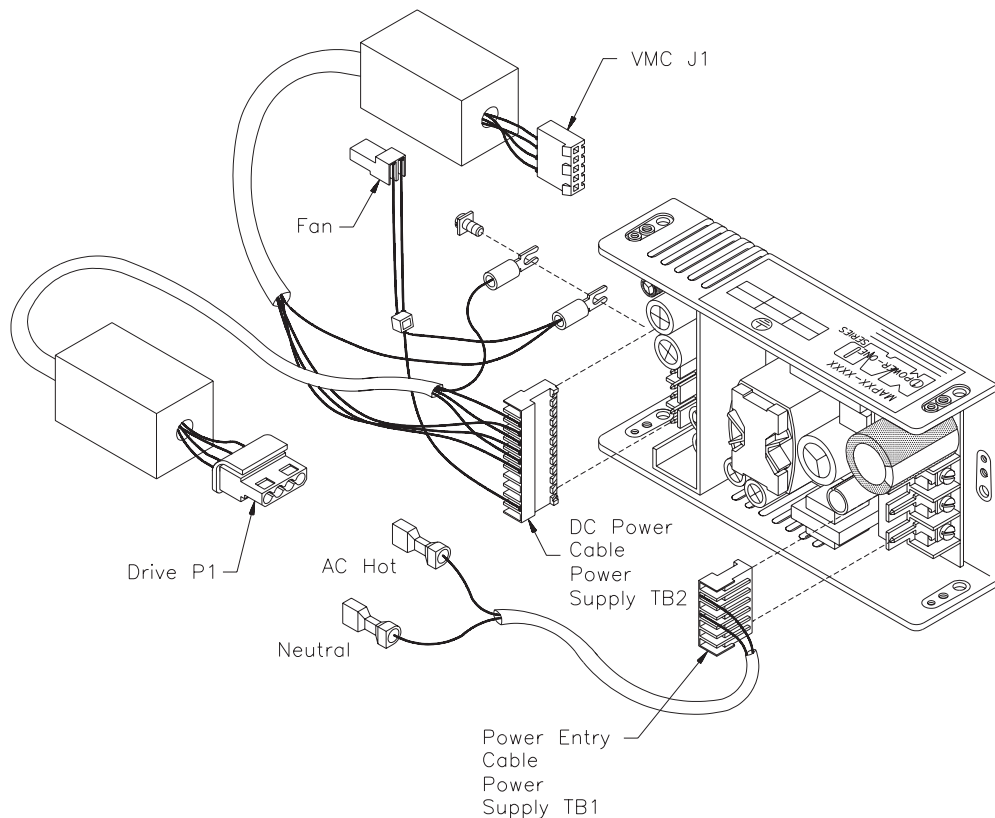

Figure 23-5 DC Power cable, Power Entry cable, and power supply
3. Locate the DC power cable, which has main connectors to the power supply and additional connectors to the VMC card, the CTS, and the fan. Figure 23-5 shows the DC power cable and power supply.
4. Locate the power entry cable, which is connected to the power entry module and the power supply. Figure 23-5 shows the location of the power entry cable and the power supply. Figure 19-2 shows the location of the power entry cable's connectors ("AC Hot" and "Neutral") on the power entry module.